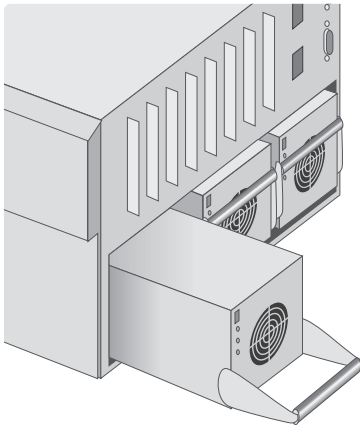

Figure 6-20 Pull down the handle and pull out the hot-swappable PSU
2. If necessary, unscrew the power supply from the chassis. Normally, redundant power supplies use a lever or handle instead of screws to attach to the chassis. Flip the lever/handle or unscrew, and then pull the PSU out of the server (see Figure 6-20). You will probably perform this action from the back of the server in most cases, so make sure you have enough space to either slide the server out of the rack far enough to reach behind the server from the front of the rack or that sufficient space exists behind the server to both open a door (if present) and remove the power supply from the back of the rack. Be sure to use both hands when removing the PSU; it might surprise you how heavy it can be.